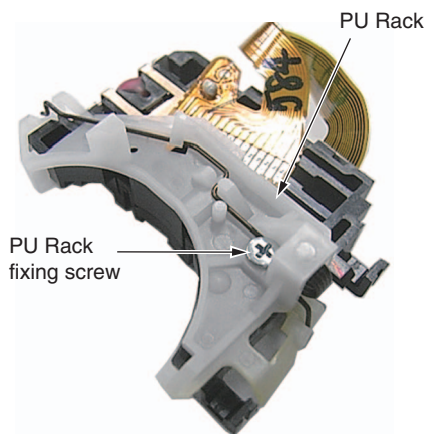

Fig. 1
2. Remove the PU Rack fixing screw (Fig. 1).